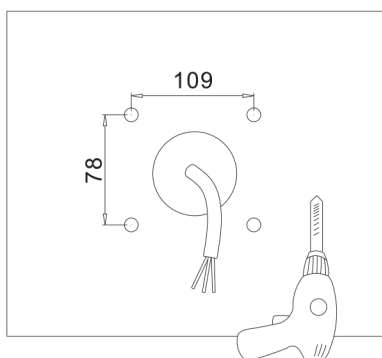

Figure 1-1
1.Cut holes on the wall according to locating plate. (Figure 1-1)